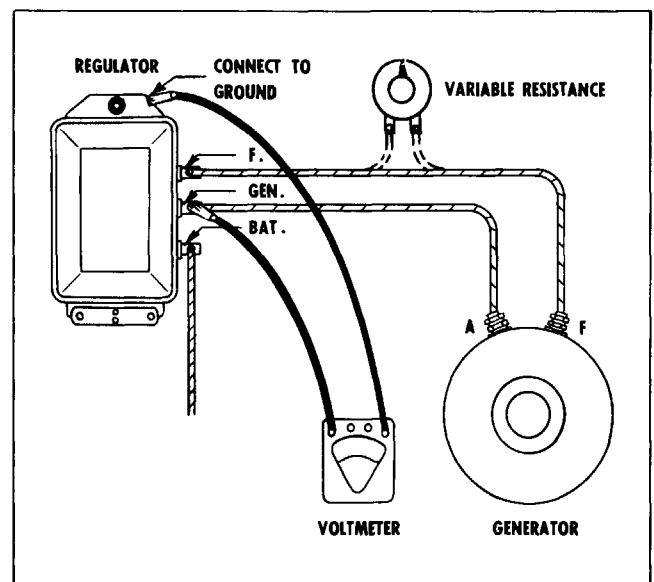

Fig. 12-10 Connections for Checking Closing Voltage
1. Connect a voltmeter between the regulator "GEN" terminal and ground (Fig. 12-10).